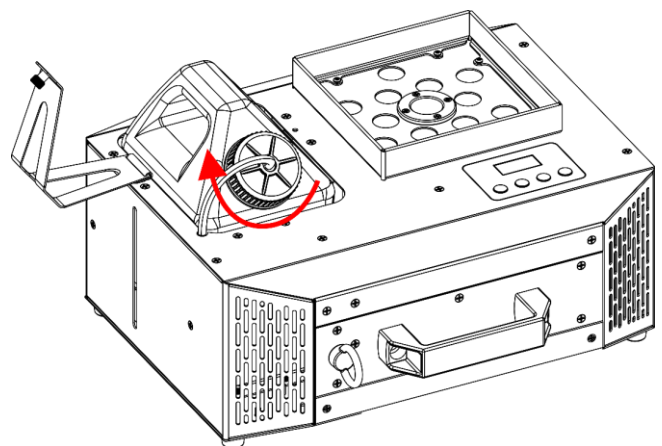

Fig. 45
- 10) Screw the lid back on the fluid tank, as shown in Fig. 45.